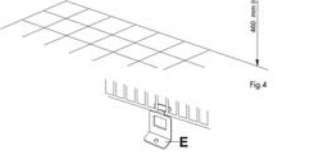

Fig 4
- 将机器放在两个固定架之上并使其与图2个固定架“E”安装架（如图4所示）。
- Hang the heater on the two brackets fixed to the wall. Insert the two brackets "E" in the back of the connector base as shown in Fig. 4.